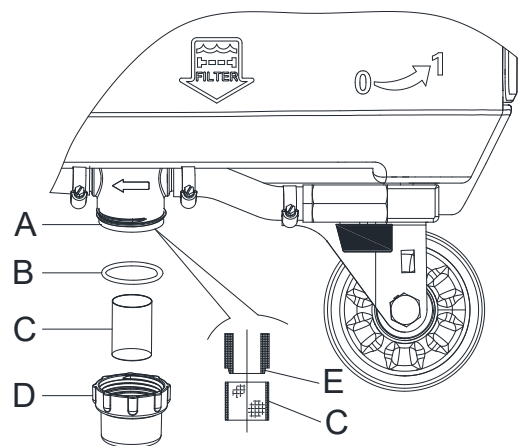

Figure 11
4. Remove the cover (D, Figure 11), then remove the filter strainer (C).
The filter strainer (C, Figure 11) must be correctly positioned on the housing (E) of the support (A).